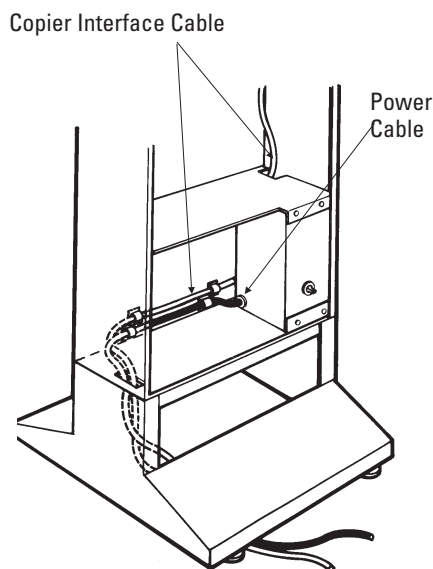
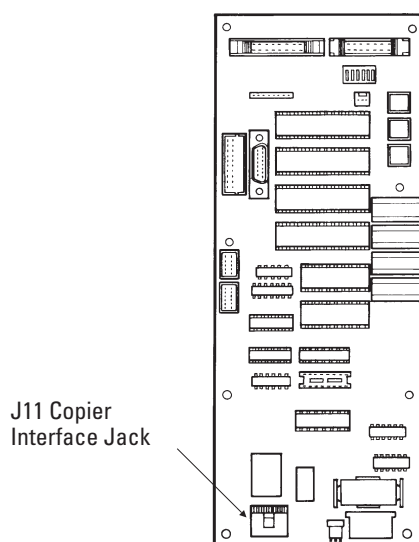

Figure 3-1:
Figure 3-2:
- 1 Feed the power cable through the rectangular punchout in the base of the Tower (Figure 3-1).
- 2 Route the copier interface cable as shown in Figure 3-1, then plug it into the jack located at J11 on the Control Board (Figure 3-2). *NOTE: If you're connecting a 12-pin cable, insert the cable so that it is flush with the left side of the jack. If you're connecting a 20-pin cable (required for Auxiliary Channel Pricing), remove the two blockers from the right side of the jack to expose all 20 pins, then plug in the cable.*